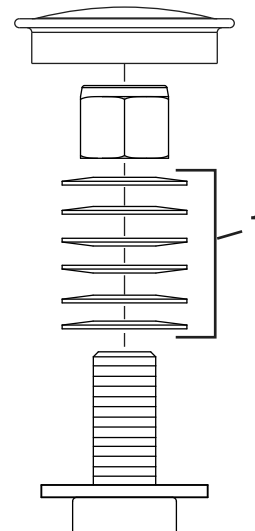

Figure 50
3. Remove the dust cap from the caster and tighten the locknut (Figure 50).
4. Tighten the locknut until the spring washers are flat, and then back off a 1/4 turn to properly set the preload on the bearings (Figure 50).
Important: Make sure that the spring washers are installed correctly as shown in Figure 50.
5. Install the dust cap (Figure 50).